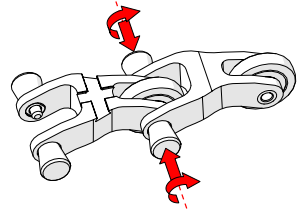

Fig. 60 - Release pins
3. Twist the pins until they unlatch and extend into the hole of the connected component (*Fig. 60*).